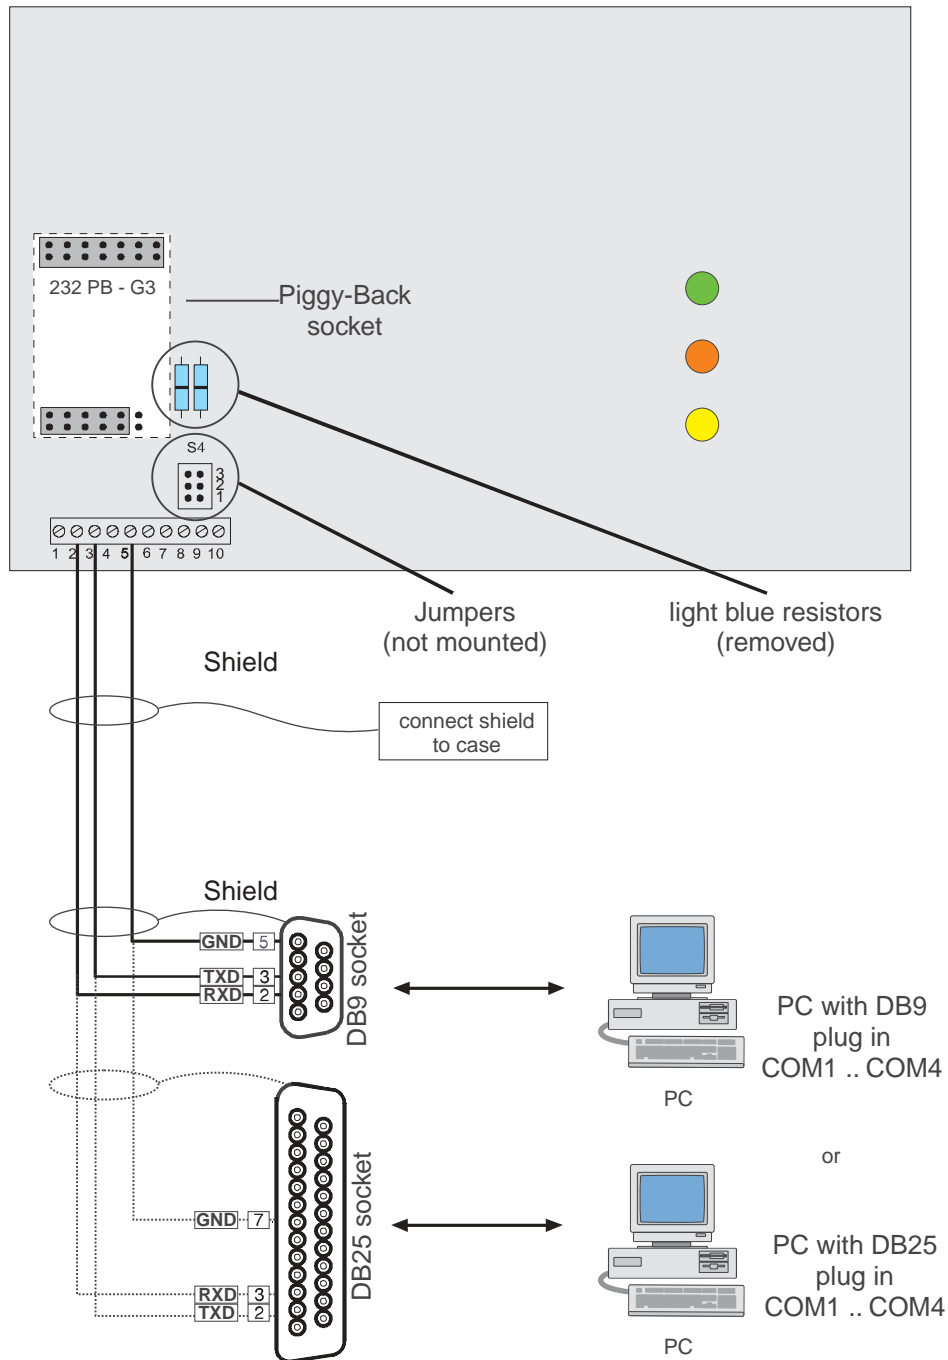
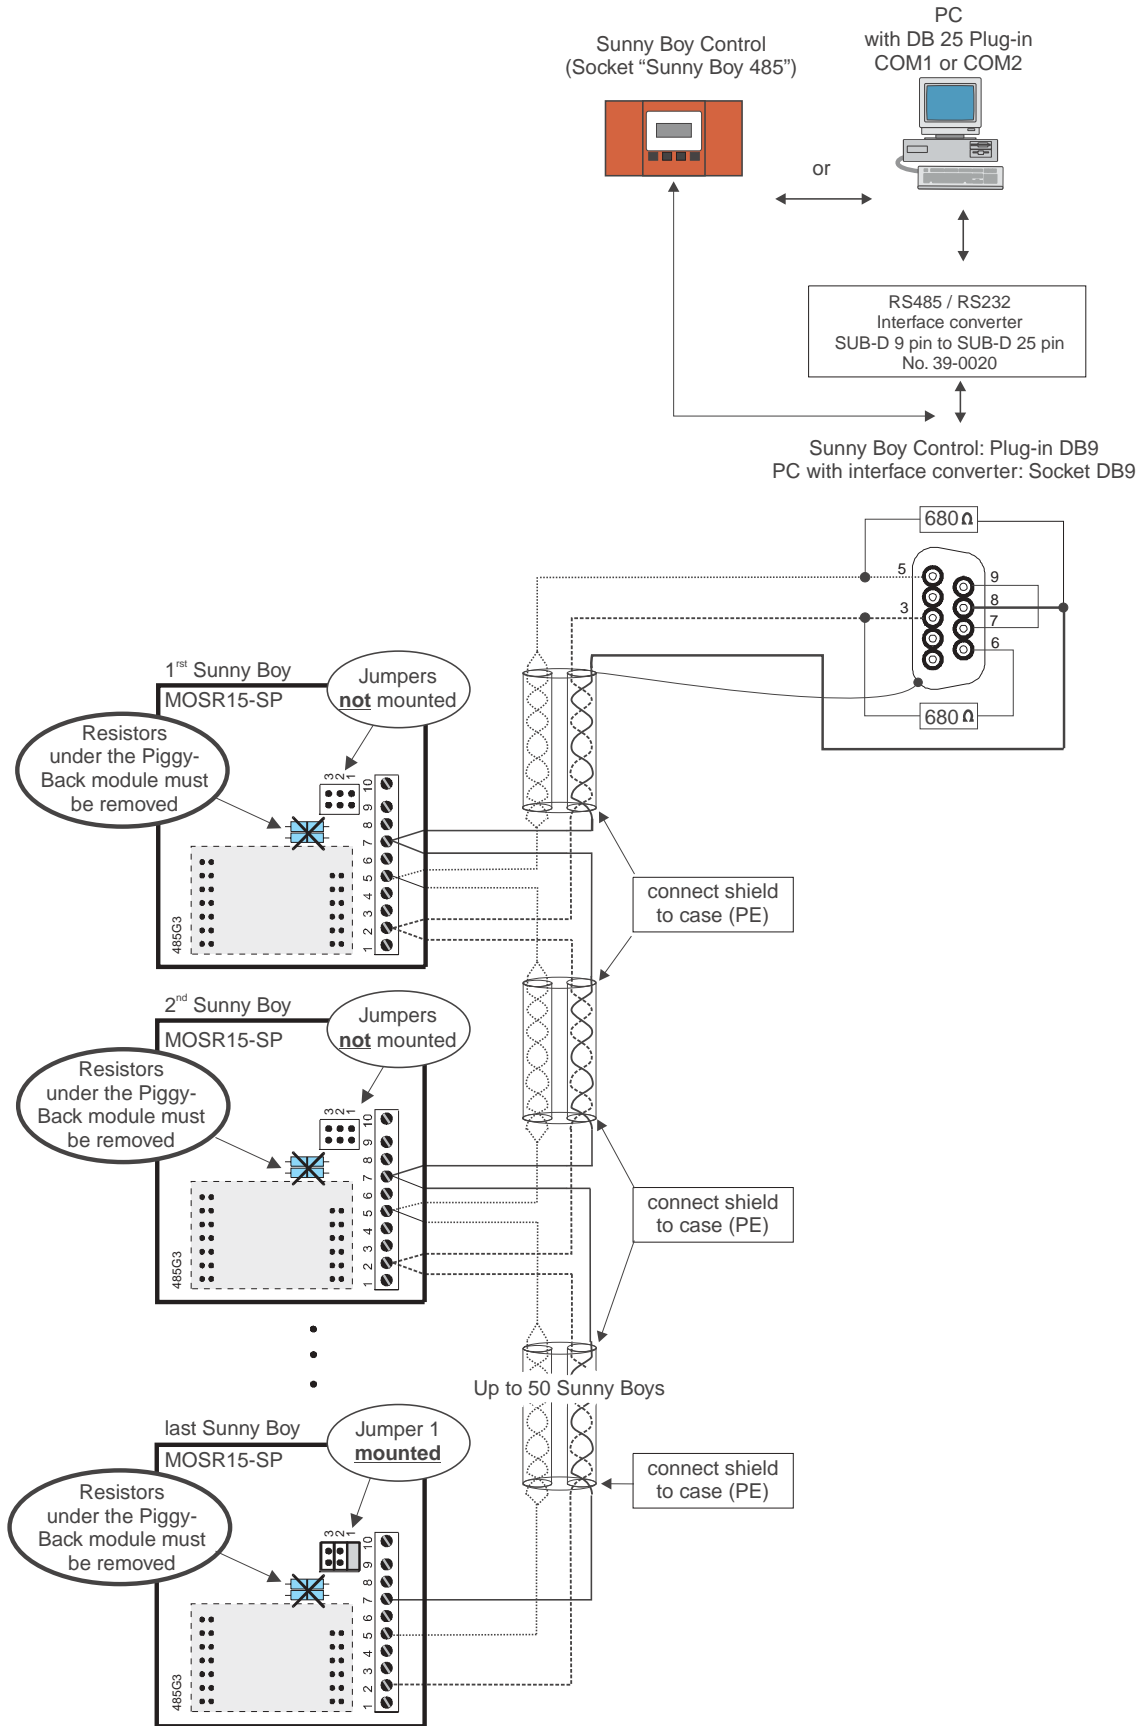

Fig. 6.3: System control board Sunny Boy with RS232 cabling
Fig. 6.6: System control board Sunny Boy with RS485 cabling
- The Powerline piggy back modem is installed (see Fig. 6.3: System control board Sunny Boy with RS232 cabling).
- The blue resistors under the piggy back have to be installed for Powerline communication (see Fig. 6.3).
- the light blue resistors (Fig. 6.3) on the system control board are removed.
- Connect RS232 connection cable LIYCY; 0.25 mm², minimum three-cable with common shield and a maximum length of 15 m. You can see the connector layout in Fig. 6.3. The shielding should be connected to protective earth (PE) on both ends at the Sunny Boy and the PC case.
- the light blue resistors (**Fig. 6.6**) on the system control board are removed.
- Two resistors of 680 Ohm each must be integrated into the DB9 connection at the beginning of the cable that is connected to the Sunny Boy Control or the PC. One is soldered from pin 3 to pin 6, the other is soldered from pin 5 to pin 8 (see Fig. 6.6). These resistors are not required for communication with the *Sunny Boy Control* if the corresponding jumpers were plugged on.
- The recommended cable for the RS485 connection is a LIYCY 2 x 0.25 mm twisted pair cable. It consists of four data lines of which two are each combined to altogether two twisted pairs. Both pairs are surrounded by a single common shield. Maximum length of the entire RS485 connection is 1200 m (4000 ft.). It is essential to connect the outer shielding to protective earth (PE) on both ends.
- Remove the light blue resistors (Fig. 6.6) on the system control board by cutting them out with a wire cutter.
- Please make sure that the light blue resistors (Fig. 6.6) are plugged onto the system control board. If not, resistors (corresponding to 0 Ohm resistors) have to be installed in there.
Connect the cables for RS232 (see Fig. 6.3) or RS485 (see Fig. 6.6). No cabling is necessary for Powerline communication. Data cables are lead outside through the free opening at the bottom of the Sunny Boy. Please insert the PG16 screws into this opening and fasten them.